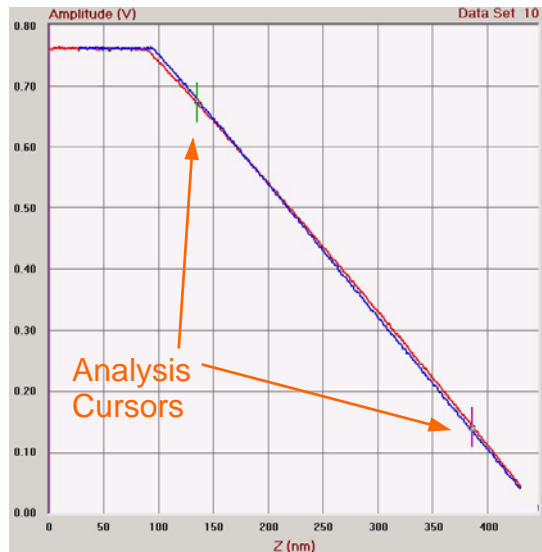

Figure 10-10 Optics calibration curve.
2. Open the **Surface Force** window and setup the *Indent* tab controls to produce an indentation curve similar to Figure 10-10. For example, the settings shown in Table 10-5 would be appropriate for an NSC16 cantilever. Notice how the *Limit* control is set to end the loading segment of the measurement when the amplitude reaches 0.05 volts. This prevents the cantilever tip from being overstressed.